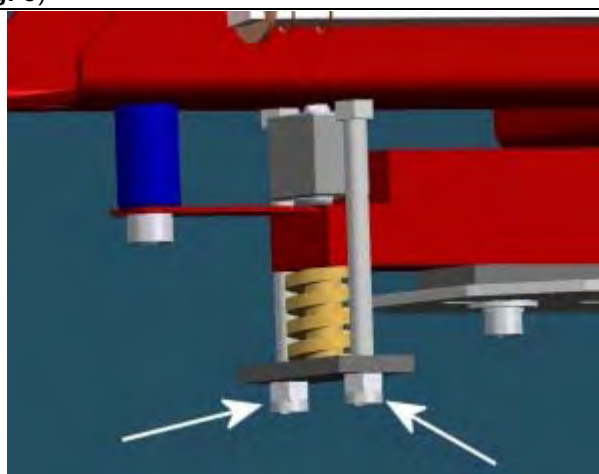

Fig. 5
7. Remove the 2 nuts (**Fig. 5**)
8. Lift the shaft and remove the single piezo (**Fig. 5**)
10. Put the spring (**Fig. 5**) and fix the nuts. Screw the nut until it starts compressing the spring, after that screw turn the nuts **3 complete turns**.